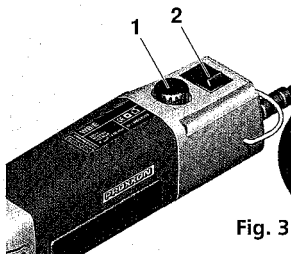

Fig. 3
1. Gerät am Schalter 2 (Fig. 3) ein-
1. Switch drill on at switch 2 (Fig. 3) and select the appropriate speed at dial 1.